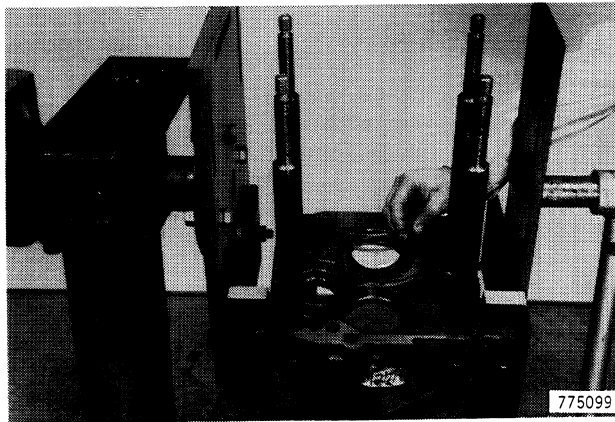

Figure 103
45. Remove the pinion bearing cup shims, Figure 103. Keep shims together. They will be used during assembly.